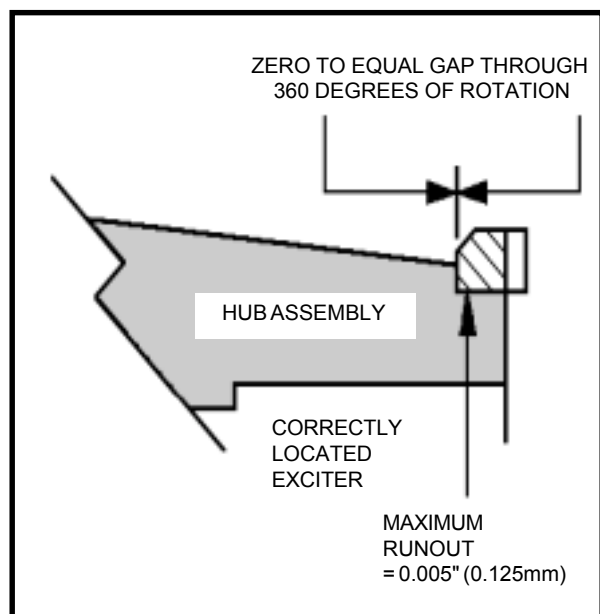

Fig 2.4. FITTING THE EXCITER TO THE HUB
6. When the exciter is correctly fitted there should be either a zero or equal gap between the shoulder of the machined hub and the back of the exciter throughout 360 degrees of rotation (see Fig 2.4).
1. Reset the sensor as detailed in section 3.4 and check that the exciter is not damaged and is running true (see section 2.1, 2.2 and Fig 2.4).